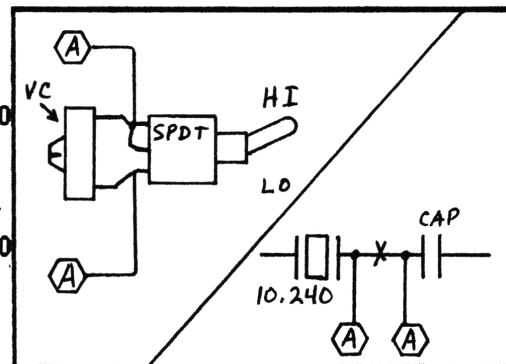

FIGURE 1&2.PC77
1.REFER TO FIGURE 1. ISOLATE PINS 7, 8, AND 14.
3.WIRE TWO DPDT CENTER OFF SWITCHES AS PER FIG.1.
GIVES 27.425-27.865. REFER TO FIGURES 1 & 2.